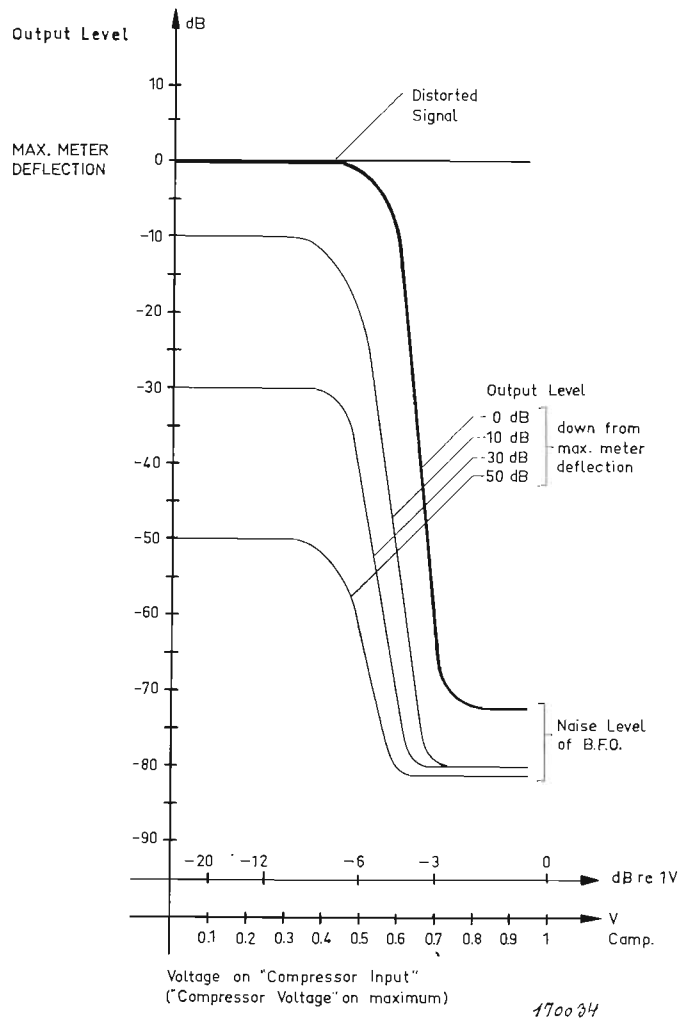

Fig.3.2. Regulation characteristics for different positions of Output Level potentiometer
The input impedance of the Compressor Input is approximately 25 k Ω and the maximum range of regulation is 50 dB. Regulation characteristics for different positions of the Output Level potentiometer are shown in Fig.3.2.
4. Feed the control voltage to the COMPRESSOR INPUT terminal. If necessary use an amplifier which has a linear frequency characteristic for the amplification of the control signal, approximately 0.5 volt being required for full utilization of the compressor. (See Fig. 3.2).
It is also possible to obtain different regulation characteristics dependent on the position of the potentiometer marked OUTPUT LEVEL. This can be seen from Fig.3.2.